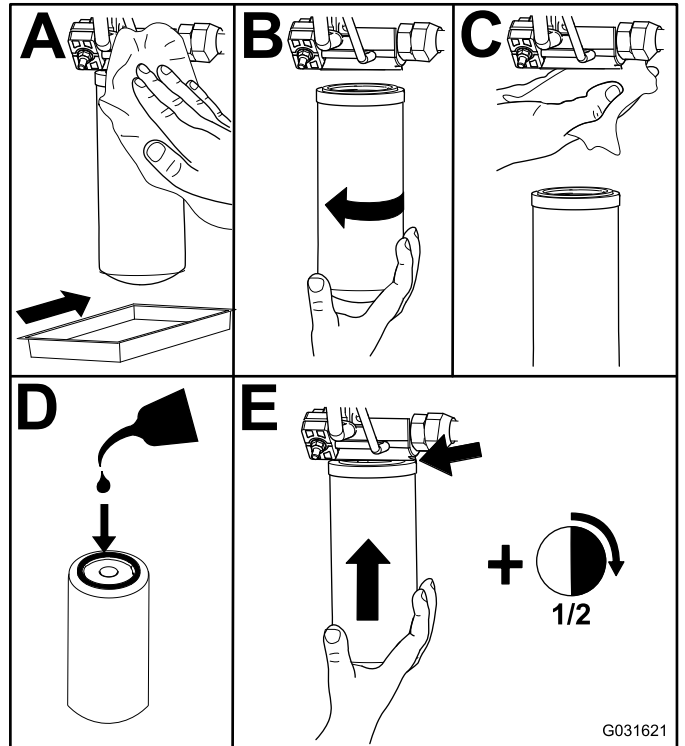

Figure 117
2. Replace the charge hydraulic filter at the hydraulic lift compartment as shown in Figure 117.
4. Replace the return filter at the right side of the machine (Figure 117).